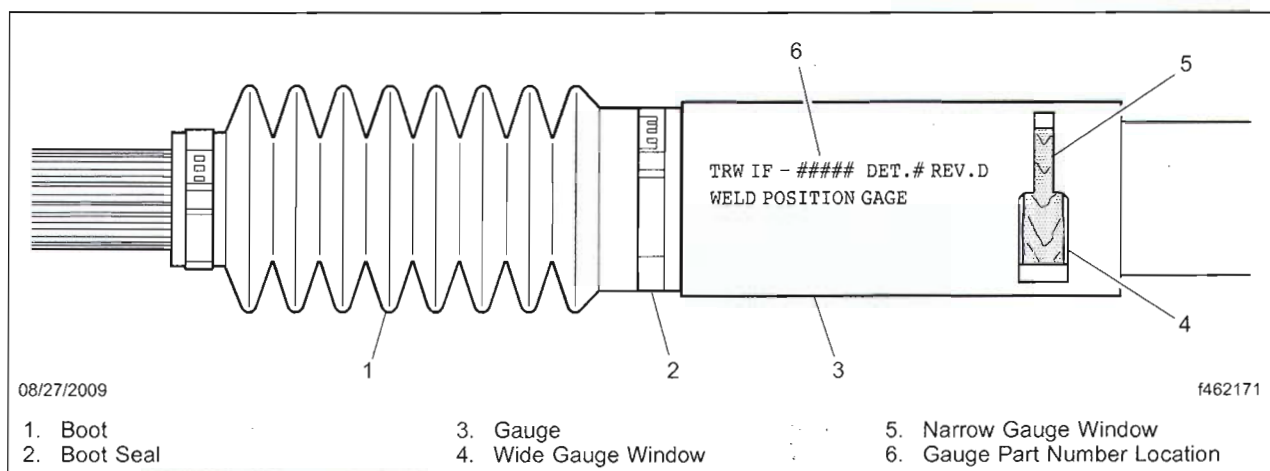

Fig. 2, TRW Weld Position Gauge Placement
6. Inspect the intermediate shaft using the TRW weld position gauge specified in **Table 4**. (The weld inspection gauge was shipped directly to dealers by TRW.) Place the end of the gauge against the base of the boot so that the gauge body covers the column part number. See **Fig. 2**